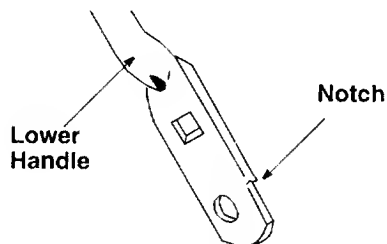

FIGURE 15
- Turn the lower handle around so the notch on the bottom of the lower handle is facing forward as shown in Figure 15. Reassemble, placing the bottom holes in the handle over the weld pins in the handle mounting bracket.